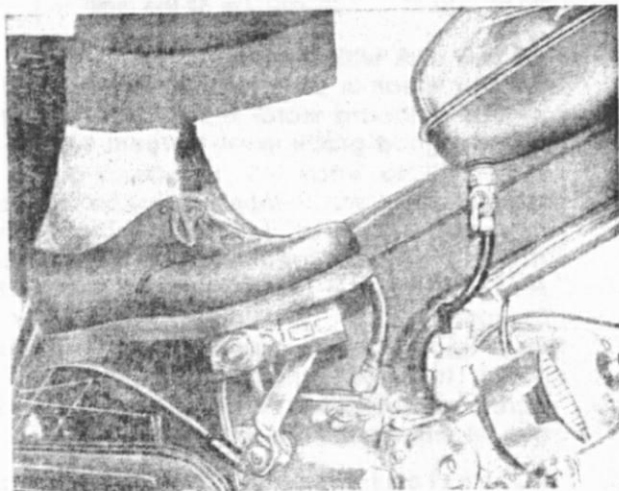

Fig. 13: Pedals in starting position
2. Get one pedal into its top position (Fig. 13).